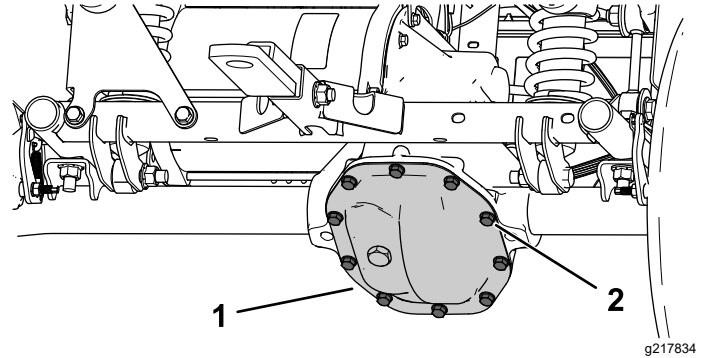

Figure 49
1. Align a drain pan under the transaxle cover (Figure 49).
2. Remove the bolts from the transaxle cover and drain the fluid completely (Figure 49).